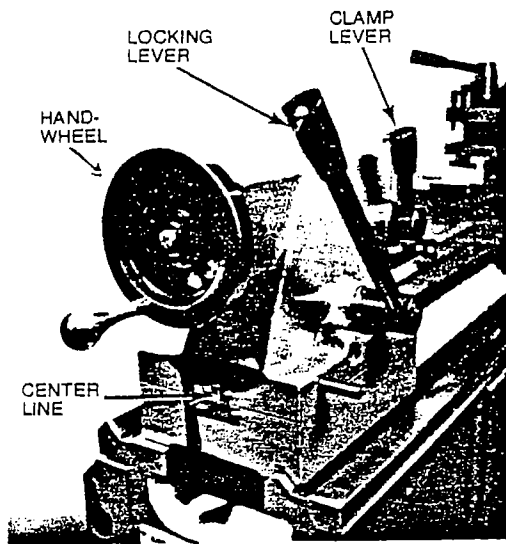

FIGURE 29
2. Release tailstock clamp lever (Figure 29), unlocking the tailstock.